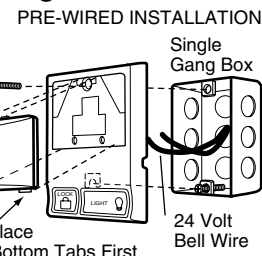

Figure 3 MULTI-FUNCTION DOOR CONTROL (BACK)
1. Strip 1/4" of insulation from one end of bell wire and connect to the two screw terminals on back of door control by color: white wire to 2 and white/red wire to 1 (Fig. 3).